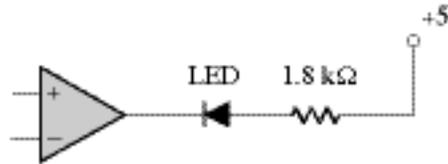

Figure 2: Comparator output connection.
4. Connect the seven comparator outputs to LEDs as shown in Fig. 2.
Note: With the connection of Fig. 2, an LED is “on” if the comparator output is LOW. Thus, an “on” LED implies that the - comparator input has a greater voltage than the + input.